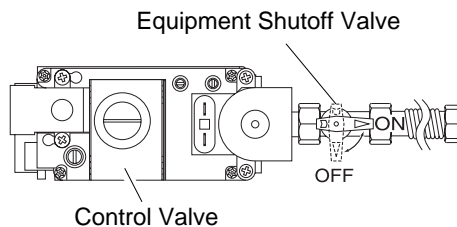

Figure 52 - Turning the Equipment Shutoff Valve to the OFF position
5. Turn the equipment shutoff valve clockwise  to the OFF position (see Figure 52). Do not force.
6. Wait five (5) minutes to clear out any gas. Then smell for gas, including near the floor. If you smell gas, STOP! Follow "B" in the safety information in column one. If you don't smell gas, go to the next step.